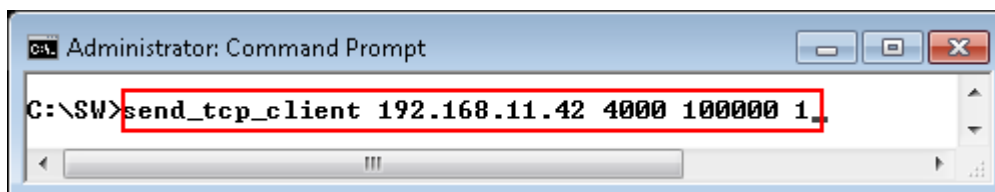

Figure 4-11 Command line for receiving demo on increment data mode
- Test application displays “...” during sending the data. Time usage and test performance are displayed as a test result after finishing transferring all data, as shown in Figure 4-11.